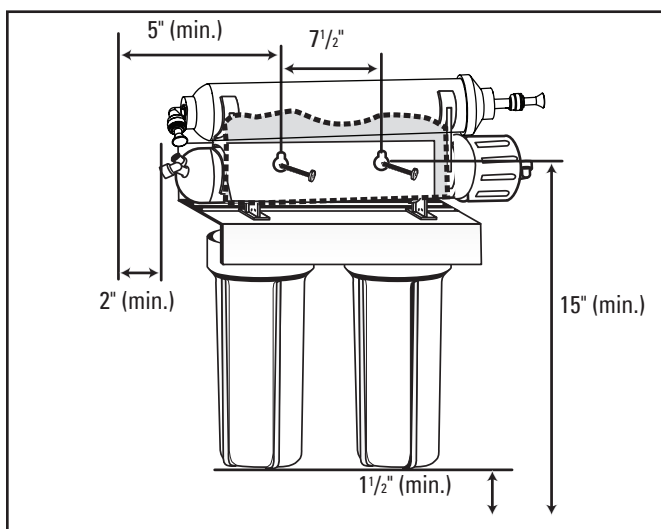

Figure 12
- If system is being installed under the kitchen sink, locate it on back or right wall. Make sure to allow ample space for installation (Figure 12). To change the filter cartridges, a minimum of 1-1/2" of clearance is required underneath the filter housings. A minimum of 2" of clearance from the left side of the unit is also required or 5" from the left bracket mounting screw hole.